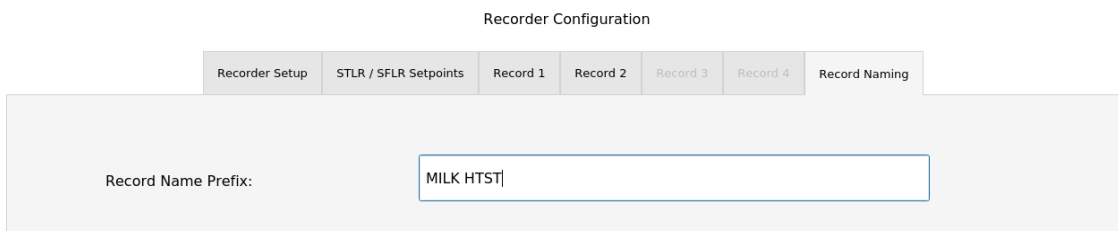

Figure 79: Record Name Prefix
- Record Name Prefix – User configurable text that is applied to each record name. To change this parameter go to Recorder Configuration, Record Naming, Record Name Prefix. As seen in Figure 79 below Defined Choose to enable or disable the recording of each input on this record.